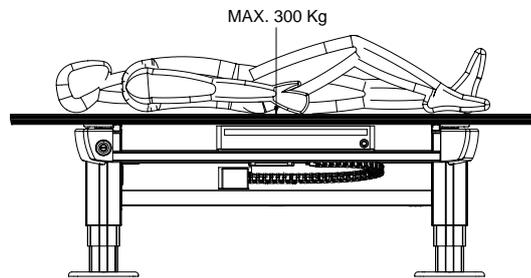

Fig. 2-10 Table top centered
- 300 kg, see Fig. 2-10 *Table top centered*